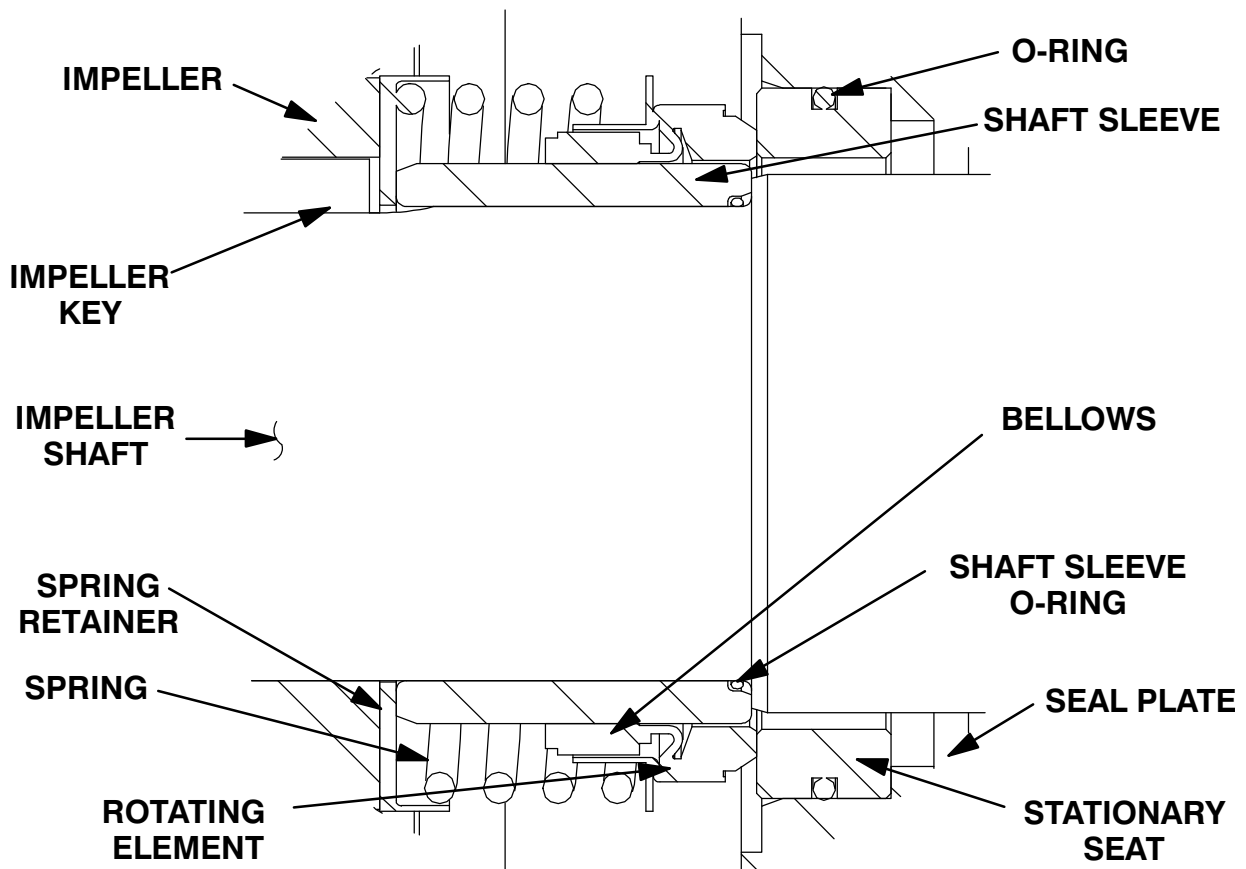

Figure 8. Seal Assembly
To ease installation of the seal, lubricate the stationary seat O-ring, the I.D. of the bellows and the O.D. of the shaft sleeve (3) with “P-80[®] Emulsion” or water. **Do not** use oil or any substitute lubricant other than water. Apply a drop of light lubricating oil on the finished faces. Assemble the seal as follows, (see Figure 8).